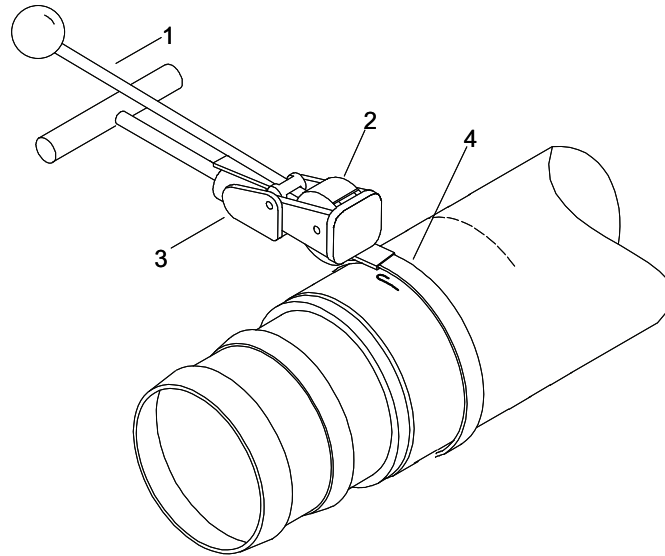

Figure 25. Hose Assembly Repair.
17. While holding the clamping tool handle (Figure 25, Item 1) in the down position, strike the center punch anvil (Figure 25, Item 2) three to four times with a hammer.
18. While holding the clamping tool handles (Figure 25, Item 1) together in the down position, raise and lower the entire clamping tool (Figure 25, Item 3) multiple times to shear the tail of the band off of the clamp (Figure 25, Item 4).
19. Using hammer, tap the edge of the distorted clamp (Figure 25, Item 4) down to a level configuration.